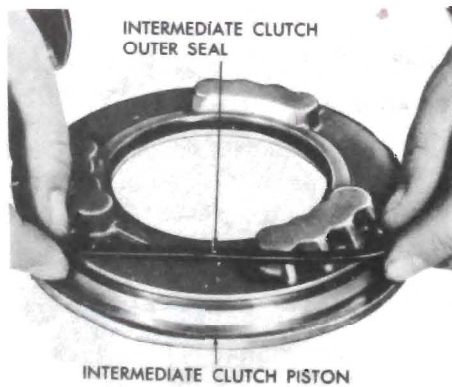

Figure 76-712
6. Remove the outer piston seal. See Figure 76-712.
2. Install new outer seal with the lip away from the spring pockets. See Figure 76-712.